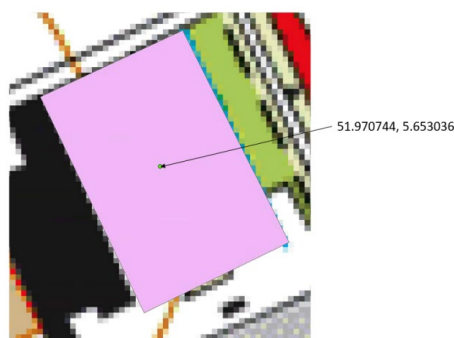

Figure 2: A homogeneous field, therefore the complete field can be sampled
- If your field is not very variable, i.e., is mostly homogeneous, you can sample the complete field (figure 2).